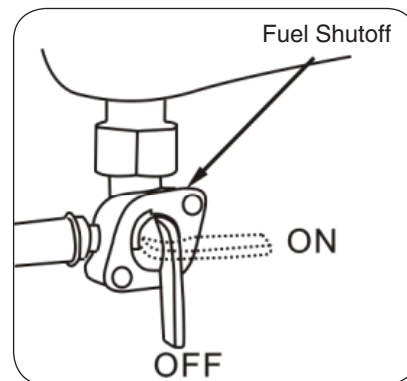

FIGURE 5
1. Set the fuel shutoff to “ON” **SEE FIGURE 5**